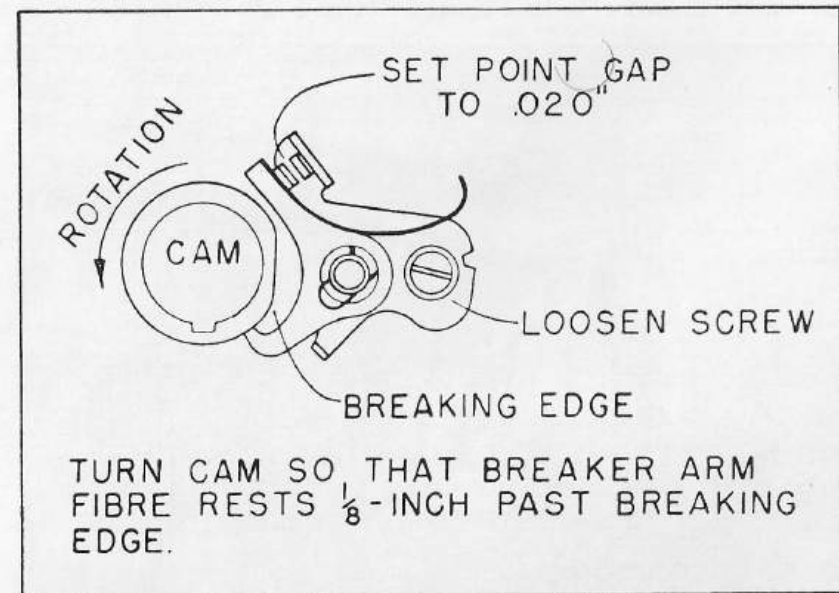

Figure 17—Adjusting Contact Points
c. Contact Point Adjustment (See Figure 17)
(1) The only magneto adjustment is at the contact points. The point-gap should be maintained at .020".
(2) Remove rotor.